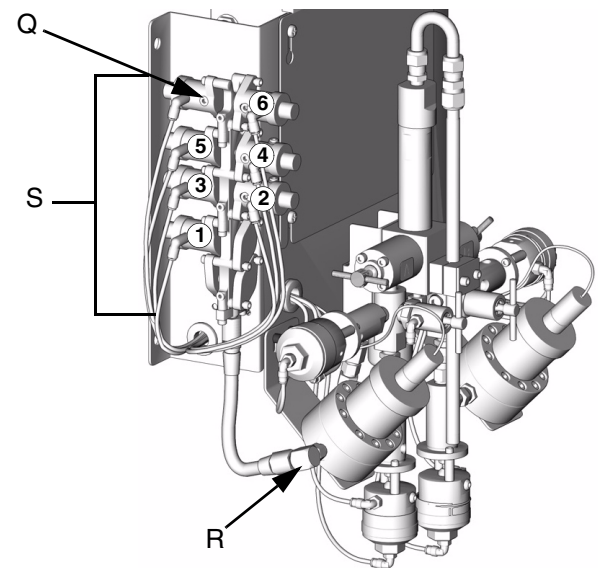

FIG. 13
- b. **Multiple color system:** also connect a solvent supply line to the color change valve (Q), marked “CC SOLVENT”. FIG. 13.
- **Single color system:** connect component supply line to the component A flow meter inlet (R). FIG. 13.
- **Multiple color system:** connect component A supply lines to the color change valve stack (S) inlets. FIG. 13. The color number is marked on the valve air supply line.